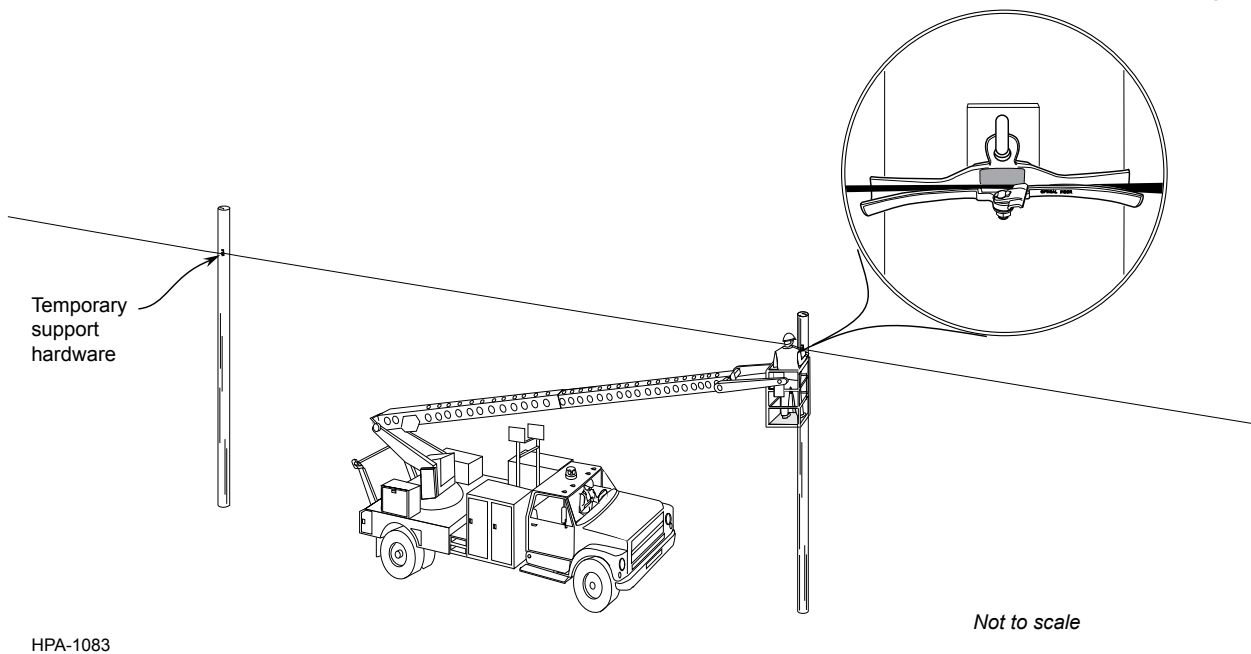

Figure 6
Step 4: Remove the cable from the temporary support hardware (e.g., a roller/block), and lift it into the suspension clamp cable trough (Figure 6).